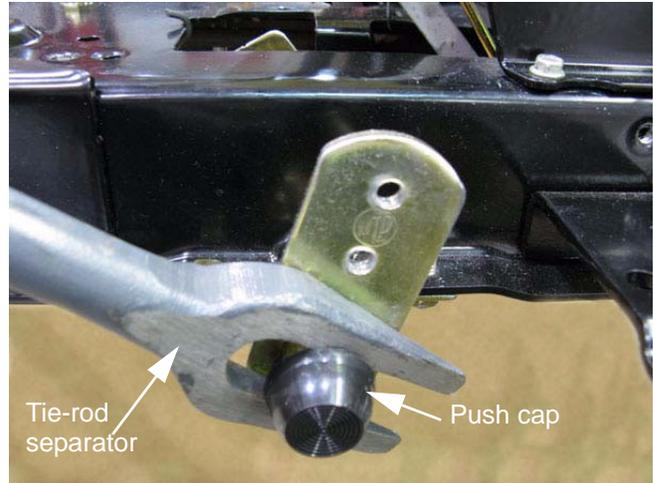

Figure 5.25
7. Remove and discard the push cap that holds the drive control pedal shaft onto the clutch/brake shaft. See Figure 5.25.